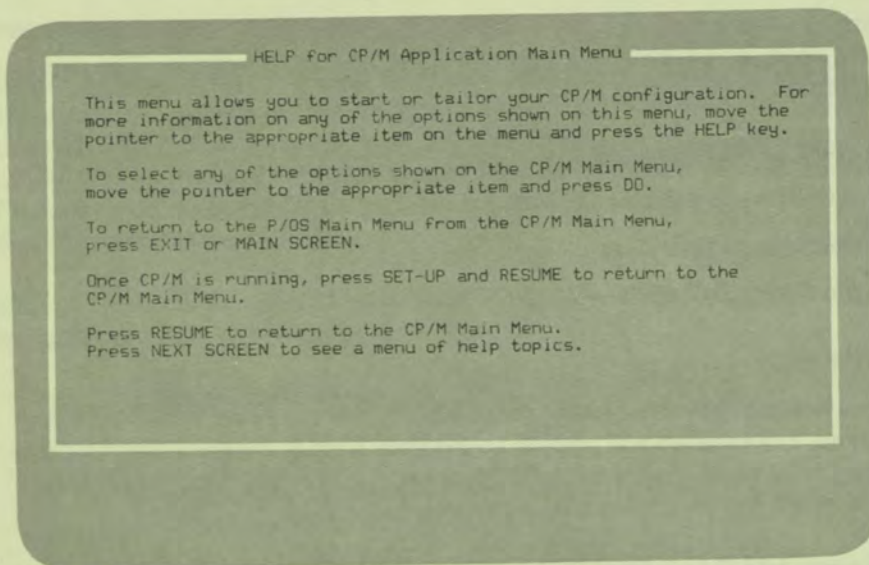

Figure 1-1
2. Second, you can display the CP/M Main Help Menu, which allows you to choose from a list of Help topics. To do so, press **HELP** from the CP/M Main Menu when the pointer is resting above the list of menu options. The Help for CP/M Application Menu is displayed. Now press **NEXT SCREEN**. The CP/M Main Help Menu (Figure 1-1) is displayed. From it you can choose the topic for which you want further information. After you have displayed the information that you want, press **RESUME** to return to the CP/M Main Menu, or press **PREV SCREEN** to redisplay the CP/M Main Help Menu.